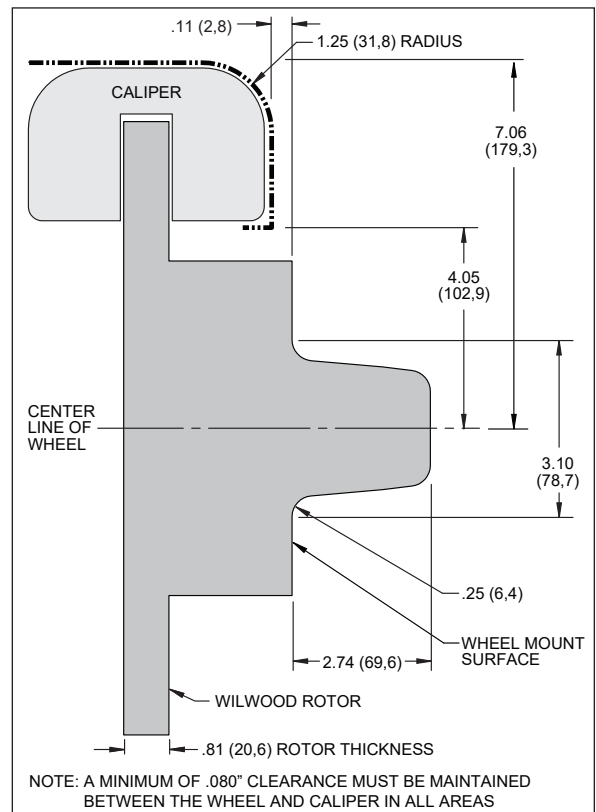

Figure 2. Wheel Clearance Diagram
- Review the Wheel Clearance Diagram (Figure 2, page 3) to verify that there is adequate clearance with the wheels you will be using with the installation.
- Verify your wheel clearance using Figure 2.
- Verify the new hub stud pattern in this kit matches the lug pattern of the vehicles wheels. CDP hubs have a 5 x 4.50" and 5 x 4.00" pattern. The 5 x 4.00" pattern does not guarantee fitment with all 5 x 4.00" wheels, either OEM or aftermarket. It is important that the center hole clearance be 3.10" or larger to clear hub snout in the kit, Figure 2.